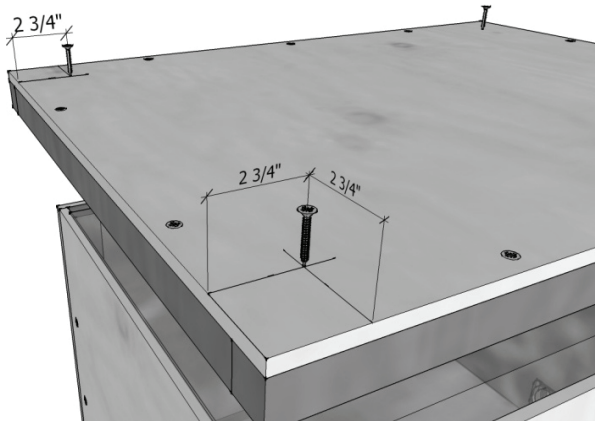

Fig. 9 – Extend liner and screw down cap.
- a. **Using last 4) 1 5/8" screws, fasten cap** onto bench. (fig. 9)